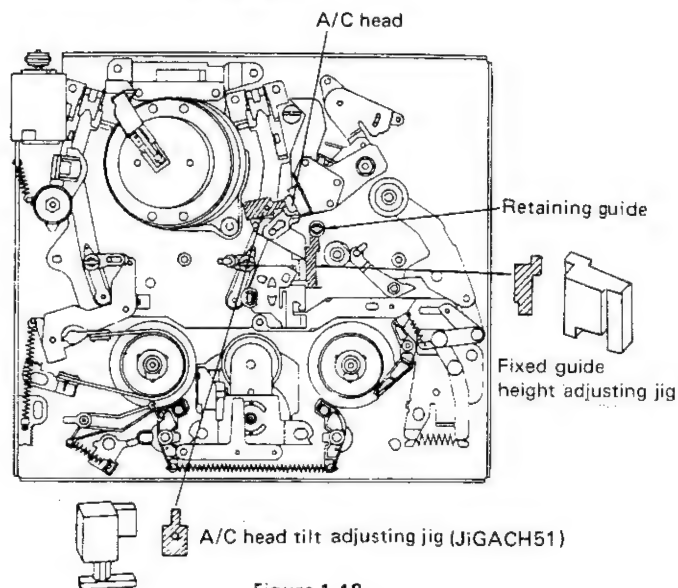

Figure 1-18.
9. Set the mechanism to the unloading mode. Place the A/C head tilt adjusting jig on the main chassis as shown in Figs. 1-18 and 1-19. Slowly turn the set screw with a hex wrench (1.5 mm JIGHW0015) until there is no gap between the jig and the A/C head.